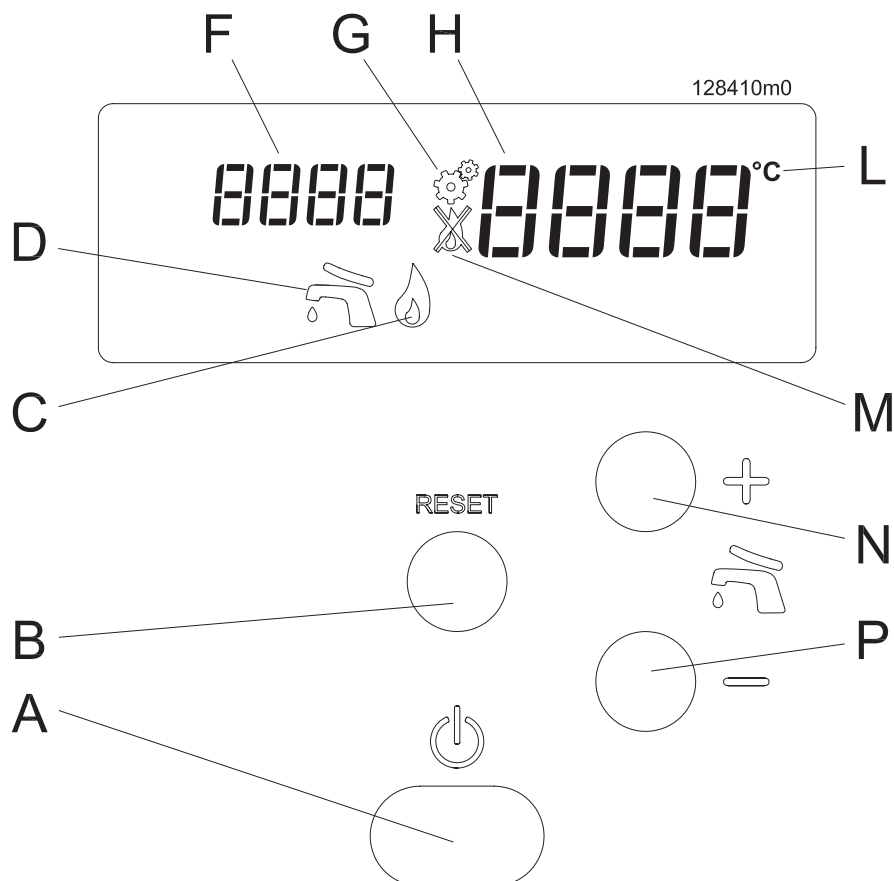

Figure 7-1 - Control panel
1. turn the power switch (item "A" in Figure 7-1) to on;
Key for figure 7-1
Entry into the "User menu" is highlighted by the visual display "F", in figure 7-1, which indicates parameters that can assume
operating on the   keys. On pressing one of the two keys, the visual display "H" in figure 7-1 will start to flash and show the temperature that is being set. The range of adjustment for the temperature of the domestic hot water goes from 40°C to 60°C. For higher output temperatures, contact your technician to change the maximum output temperature factory setting, see section 11.
- a.- press the RESET key to access the parameter (the visual display “H” in figure 7-1 will start to flash);